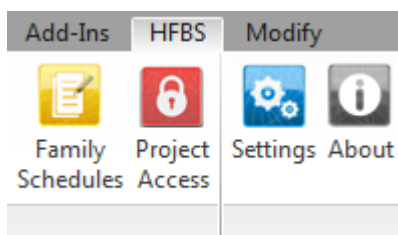

Figure 4 HFBS ribbon - The HFBS ribbon tab and Settings button in the HFBS ribbon.
- From the *HFBS* ribbon, select the *Settings* button (see Figure 4).